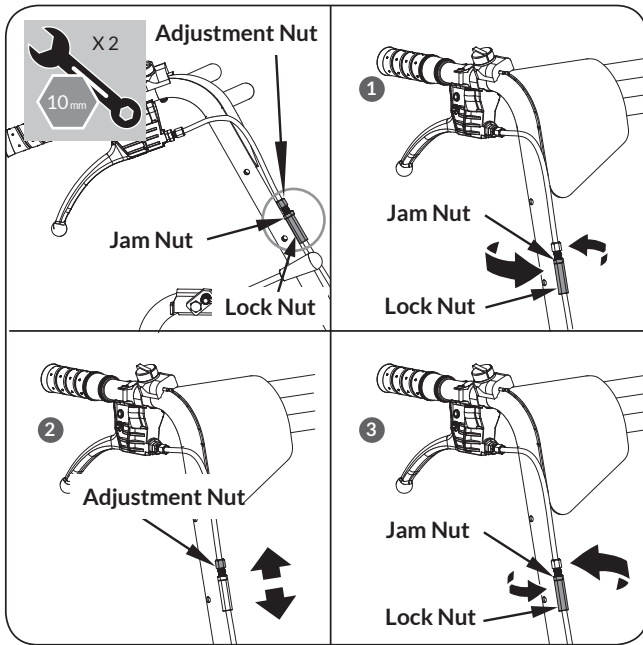

Figure 5a
1. Loosen the jam nut by turning it counter clockwise with 10mm wrench. (see **Figure 5a, Illustration 1**)
2. Tighten or loosen the cable by turning the cable adjustment nut clockwise or counter clockwise with 10mm wrench until you have reached your required tightness. (see **Figure 5a, Illustration 2**)
3. Once tightness is set, return the jam nut against the handle to hold the cable in place. (see **Figure 5a, Illustration 3**)